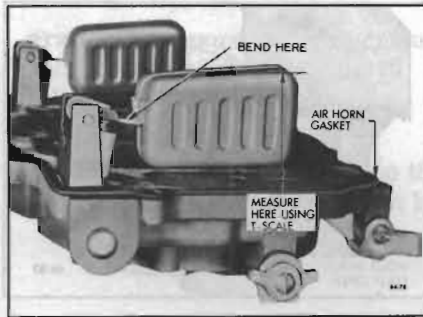

Figure 64-59—Checking Float Level
10. Adjust Float Level. With air horn inverted and air horn gasket in place, check measurement between upper corner of each float (at outer end) and air horn gasket. See Figure 64-59. To adjust, bend float lever. After any adjustment, recheck float alignment.